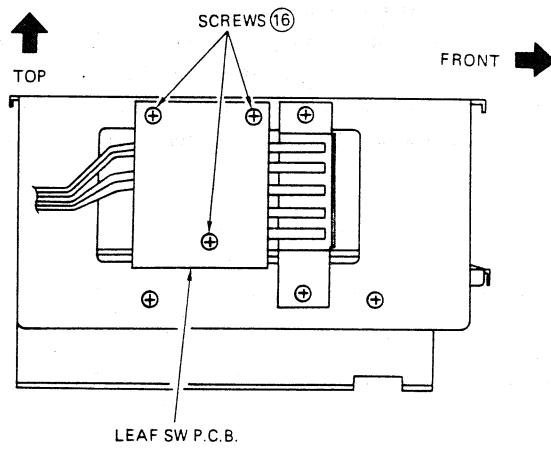

Fig. 9
- 3) Remove 3 screws ⑯ and remove the leaf switch P.C.B. (Fig. 9)